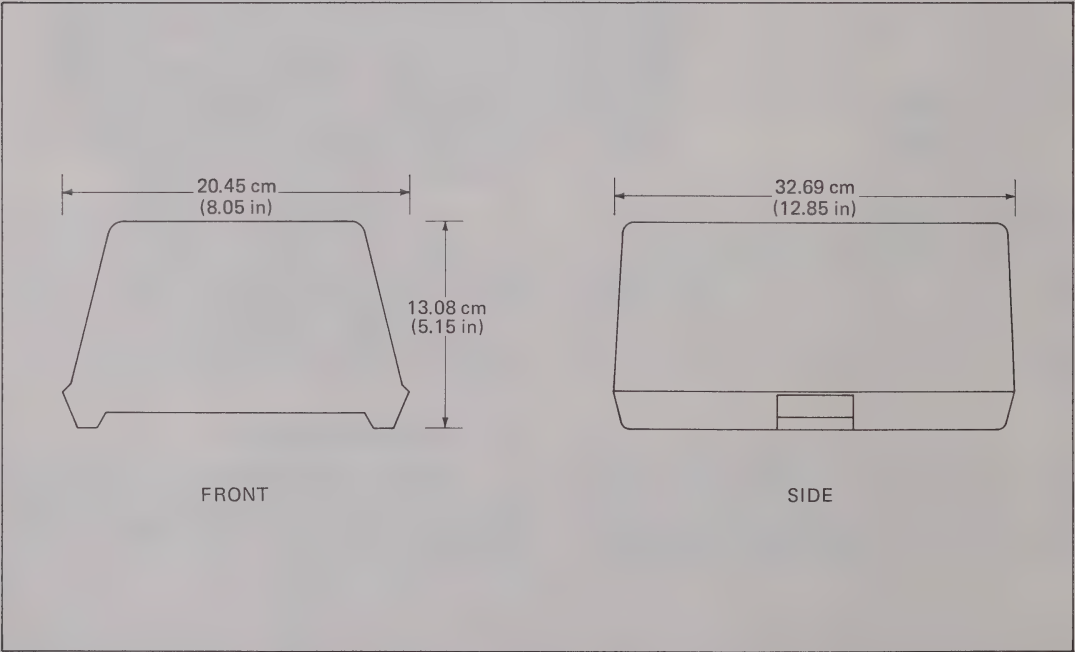

Figure 1-1. Outline Drawing
- CASE SIZE:** 20.45 cmW x 13.08 cm H x 32.69 cm L (8.05 in W x 5.15 in H x 12.85 in L). See Figure 1-1.